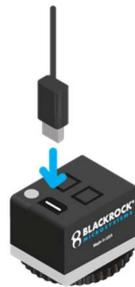

Figure 5–NeuroPlex E and cable
1. Connect the NeuroPlex E to the Digital Hub (PN 10480) and Digital Data Cable (PN 11058 and 11404). See below **Figure 5**. Only one NeuroPlex E should be plugged into each Digital Hub of the Digital NeuroPort System.